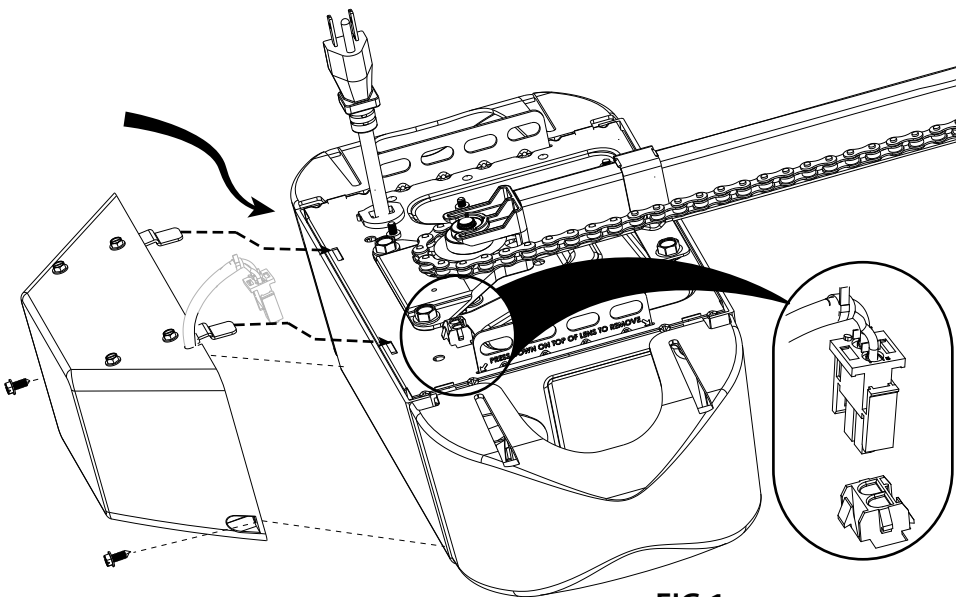

FIG.1
4. Remove Battery Backup (BBU) from powerhead, if equipped: FIG. 1.